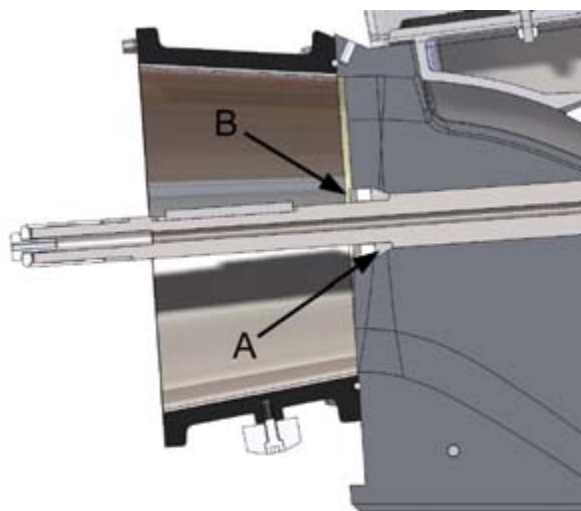

Figure 32. Adjuster sleeve
The thrust caused by the impeller is transmitted through the adjuster sleeve to the shaft (figure 32, point A). The sleeve consists of rings of different thickness. The length of the sleeve can be adjusted in 0.5 mm (approx. 0.02") increments by changing the number of the rings. This way the impeller gap on the outer race becomes fit.
3. Push the sleeve and the plastic insulating ring on to the shaft (figure 32, point B). The insulating ring sits against the impeller.